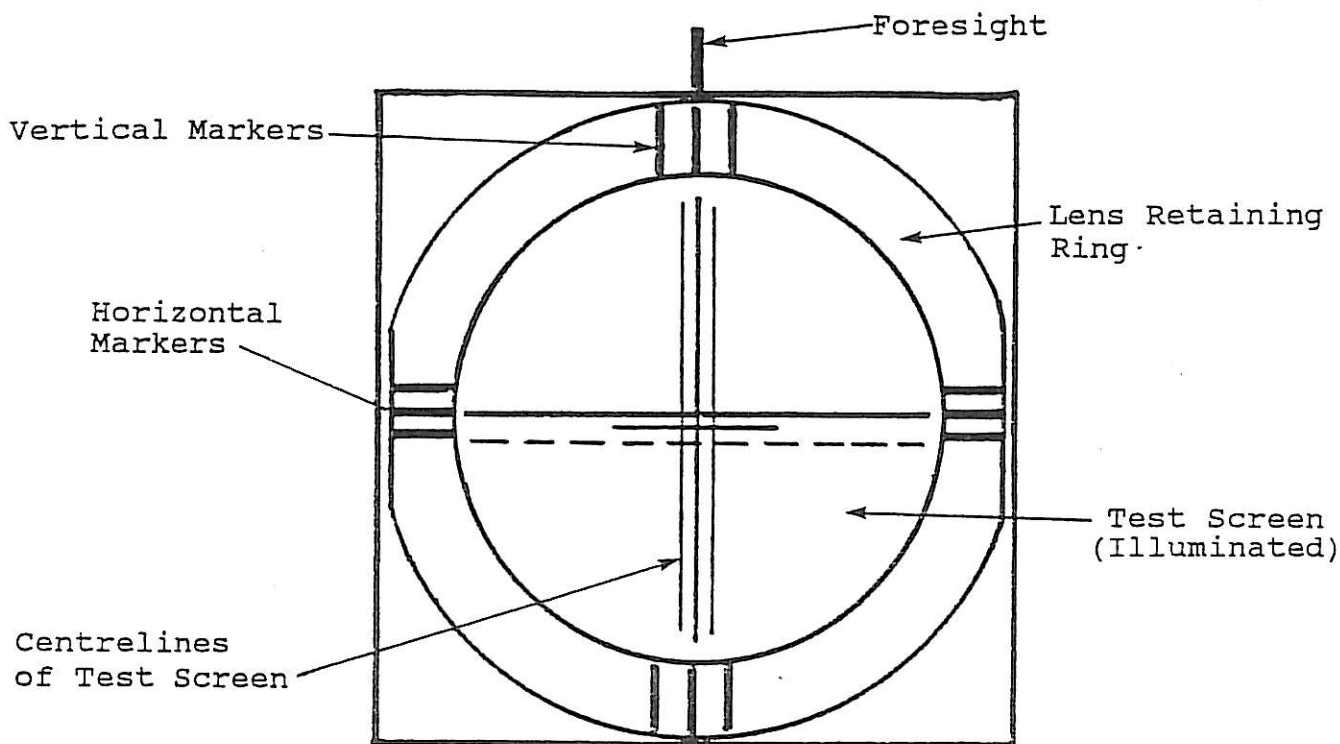

Fig. 16
6. Observe the lens retaining ring fitted to the Headlamp Aligner - this is illuminated by the beam from the torch. The alignment in the vertical plane is checked by noting that the vertical centre-line on the test screen, the centre vertical mark on the lens retaining ring* and the foresight are all in line (see Fig. 16).